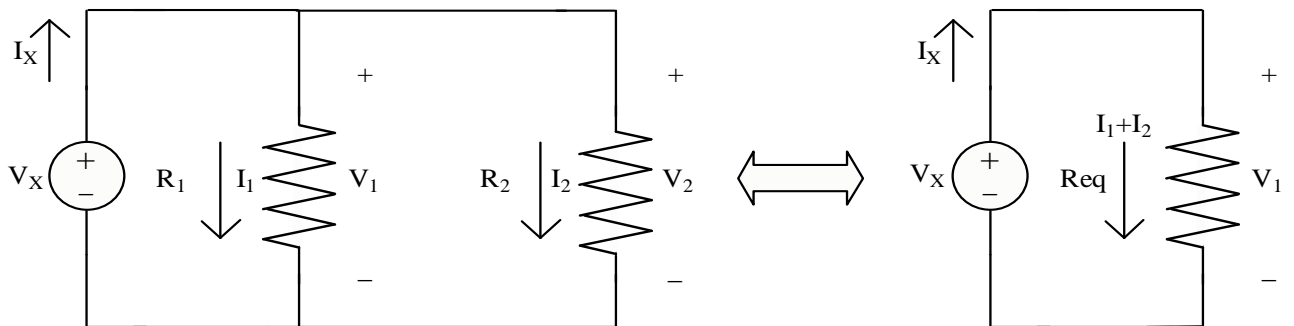

Figure 8
f. Resistors connected in parallel (see Figure8)
The HP E3631A triple output DC power supply contains three variable voltage sources, with maximum voltage values of +6V, +25V, and -25V. The 6V supply operates independently of the +25V and -25V supplies, which share a common terminal. (Look at figure 8 and try to spot the buttons for the three voltage settings). To a certain limit, all three voltage sources can be connected independent of earth ground, which is actually connected through the building wiring to the earth.